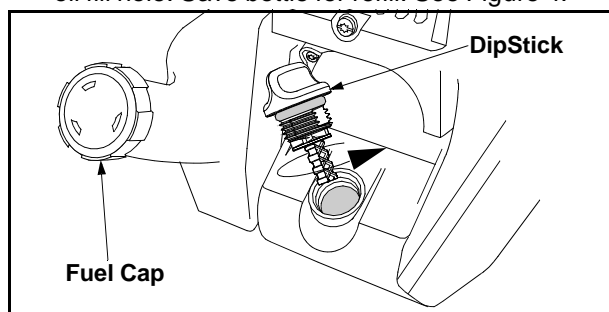

Figure 4
- Remove the oil plug/dipstick from the crankcase and pour **3.4 fl. oz. (100ml.)** bottle of oil into the oil fill hole. Save bottle for refill. See Figure 4.
- Remove fuel cap and remove the tag from the fuel tank neck. Refer to Figure 4.
- Remove the oil fill plug/dipstick and check oil level. Oil should be up to the top of the dipstick. Refer to Figure 4.